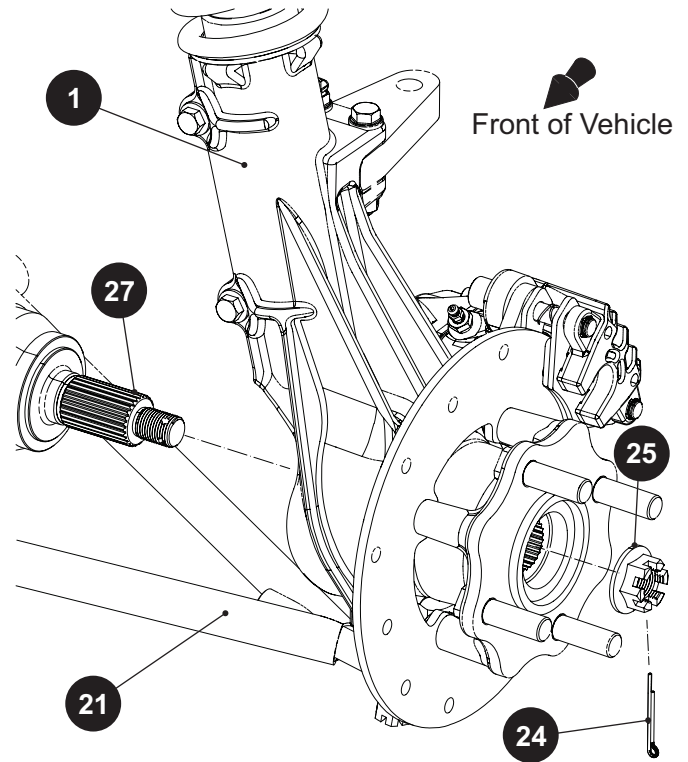

Fig. 6 CV Axle Removal
6. Tap downward on the control arm assembly (21) with a plastic faced hammer, below the strut assembly (1) to separate the control arm assembly from the strut assembly (1) If necessary, use a ball joint separator.
7. Remove the outer end of the front axle (27) from the front strut assembly (1) (Ref. Fig. 6).